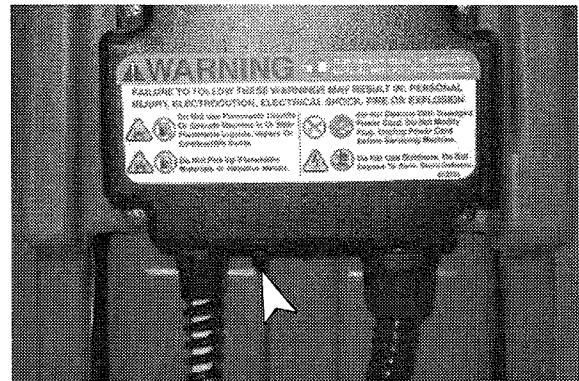

FIG. 6
4. If brush or vacuum motor should stop, circuit breaker may have tripped. Turn off machine, unplug power cord and check for any obstructions. Let motor cool and manually reset circuit breaker button, located on bottom of switchbox (Figure 6).